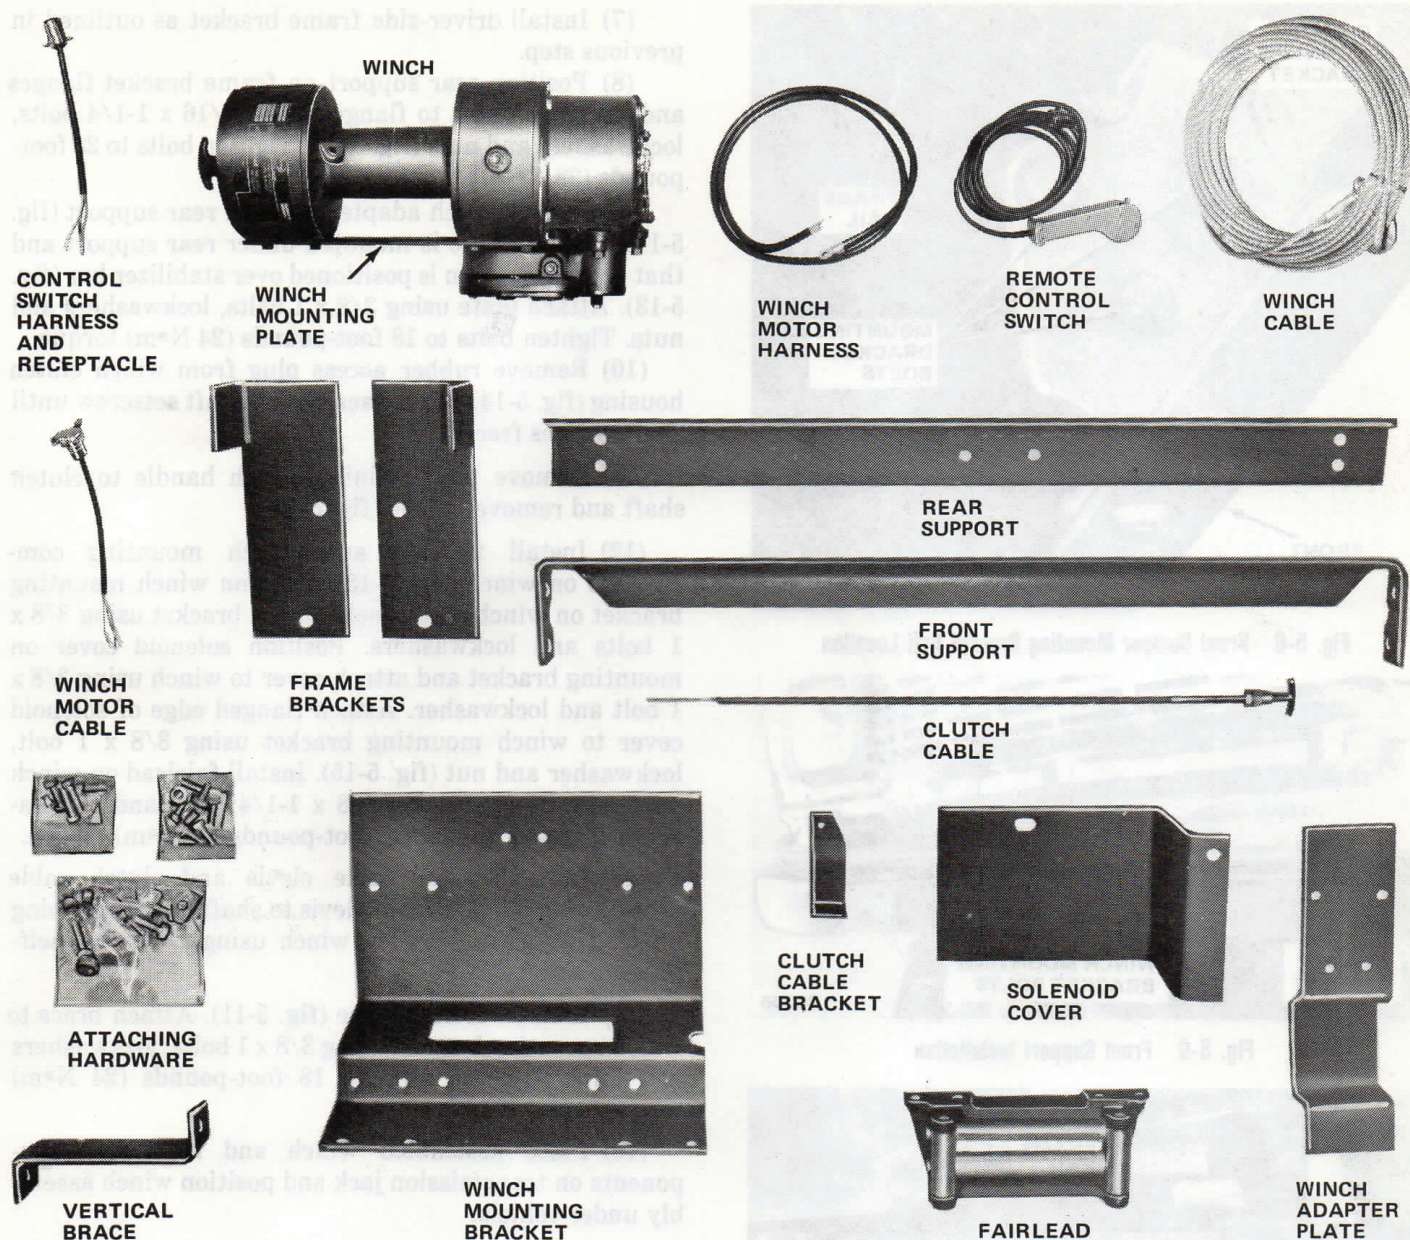
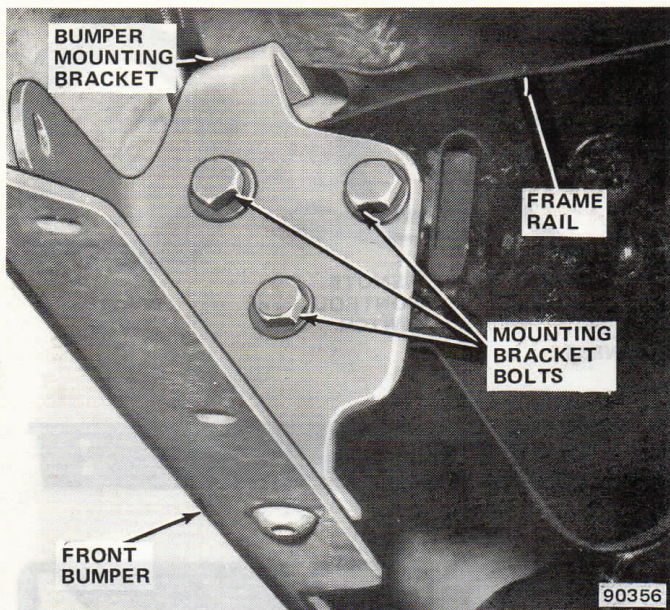

Fig. 5-7 Ramsey Electric Hidden Winch Kit—1979 Cherokee-Wagoneer-Truck Models
Fig. 5-8 Front Bumper Mounting Bracket Bolt Location
**NOTE:** The Ramsey electric hidden winch kit is available for 1979 Cherokee, Wagoneer, and Truck models only. The winch is installed under the vehicle, on the frame rails and behind the original front bumper. A special bumper is not required with this kit. Before installing the kit, check the kit contents to be sure all necessary components are included (fig. 5-7).
- (1) Remove brush guard if equipped.
- (2) Raise vehicle on hoist.
- (3) Remove bolts attaching front bumper mounting brackets to frame rails (fig. 5-8), and remove bumper and brackets as assembly.
(5) Install front bumper. Align bolt holes in bumper mounting brackets, frame rails and front support and install original bolts in lower hole of each bracket. Install  $7/16 \times 1-1/4$  bolts furnished in kit in upper holes of brackets (fig. 5-8). Use flat washers under all bolt heads and lockwashers under all attaching nuts. Tighten all bolts to 28 foot-pounds (38 N•m) torque.